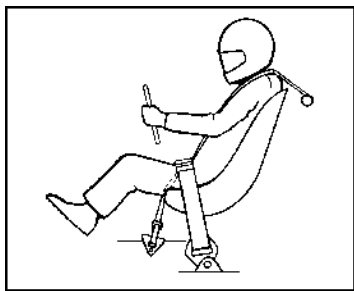
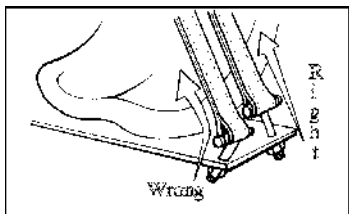

Figure 5: Safety Harness Mounting showing Correct Shoulder, Lap, and Crotch Strap Locations.
Figure 6: Safety Harness Mounting Hardware showing Correct Angle that will Sustain Maximum Load.
All vehicles except Motorcycles and ATV's must have a heavy-duty type fivepoint fast release (*no push button or quick release type*) seat belt and shoulder harness with metal metal buckles and connectors for each occupant. The single antisubmarine strap of the fivepoint system shall be attached to the floor structure as close to the front of the seat as practical so that it will exert maximum restraint to the upward movement of the belt and harness, see Figure 5 and Figure 6. The fivepoint system consists of a 76mm seat belt, a 50mm antisubmarine belt, and two 76mm shoulder straps. No "Y" type shoulder belts. All belts must show manufacturer's name, month, and year of manufacture. All belts must be changed after three (3) years of date of manufacture. SCORE recommends all belts be changed after one (1) year of use. No surplus safety harnesses are allowed.
Shoulder harness should be mounted behind the driver/co-driver. The recommended mounting point is approximately 100mm below top of shoulder. Lap belts should be kept at a minimum at least 60mm forward of seat and backrest intersection, see Figure 5 and Figure 6. All belts must be mounted directly to a main structure member of the same size specification as the roll cage and with gussets. All adjustment buckles should be kept at a minimum distance of 40mm from the seat to prevent accidental loosening or chafing. Mounting